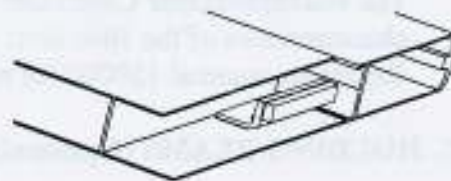

Figure 42
7. The magnet is secured inside the top rail of the swing panel on full open units. It should line up with the magnetic reed switch (it will look like a black button) installed on the bottom side of the header (See Figure 42).